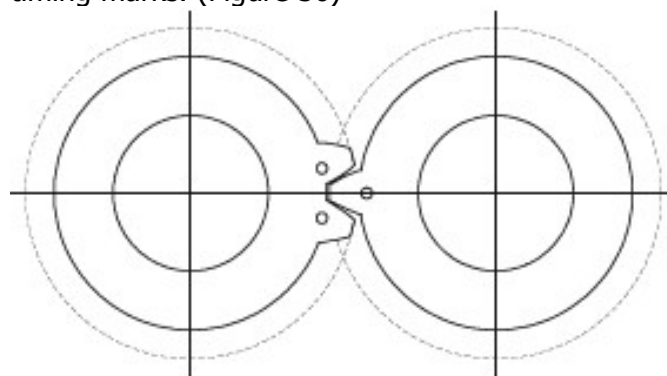

Figure 36 - Gear timing marks
**NOTE:** when fitting the second gear, align gear timing marks. (Figure 36)
- Once bearing nuts are to the correct torque in Table 8 repeat the stages in the 7 bullet points above to fit the gear drive keys (28), gears (6), tab washers (7) and gear nuts (8). Ensure that the timing marks (Figure 36) are aligned.